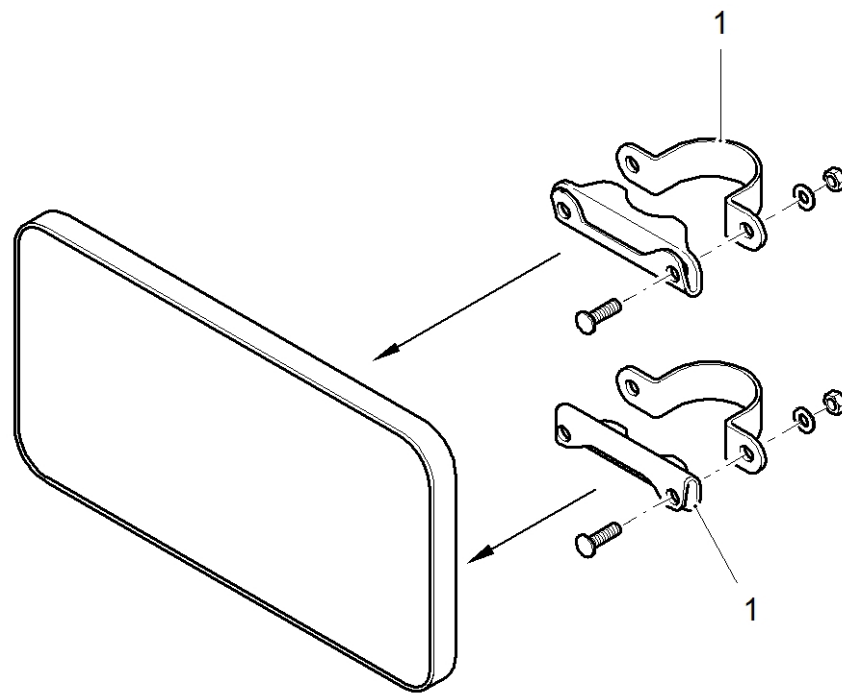

Figure 7-7 Reflective signboard
- (1) Unscrew both the EKS cuffs (Figure 7-7 Item 1) and insert the clamping strips of the EKS cuffs in the rear crossbars of the signboard.